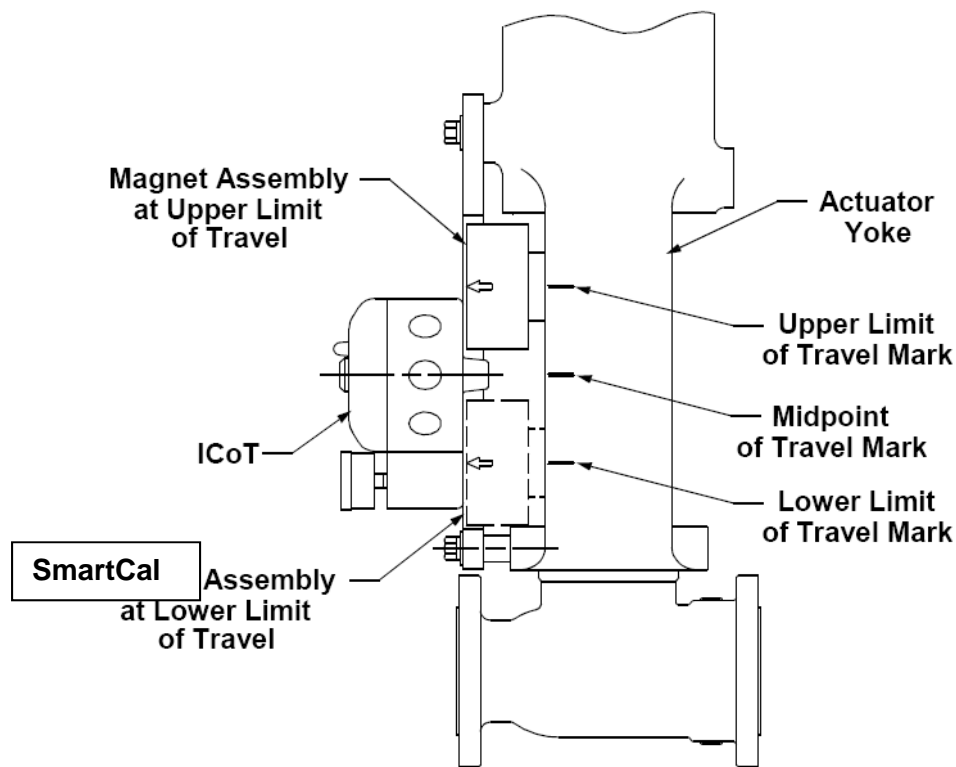

Figure 3-6
4. Lastly, mount the positioner to the bracket so that the positioner sensor (nose) of the SmartCal lines up with the midpoint mark. (See Figure 3-6).